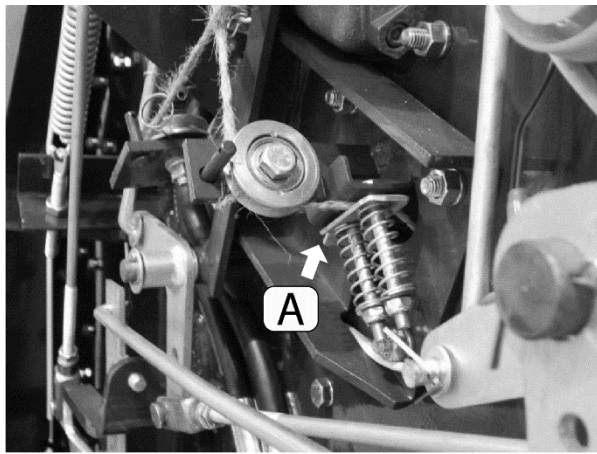
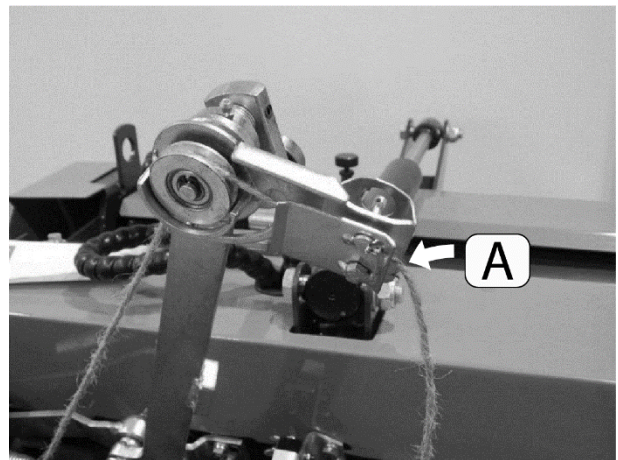

Figure 25 Right side of baler
Figure 26
- There are two tensioners – one at the right side of the baler where the twine exits the chamber (Figure 25, A) and one at the top of the twine arm (Figure 26, A).